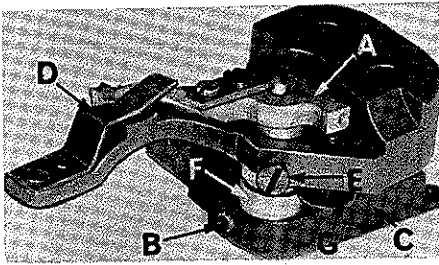

Fig. 29
1. There should be no bind or shake in lower knife pivot carrier (A, Fig. 29). This adjustment can be made by loosening screw (B) on the pivot release lever (C) and taking up the excessive end play or relieving the bind as the case may be.